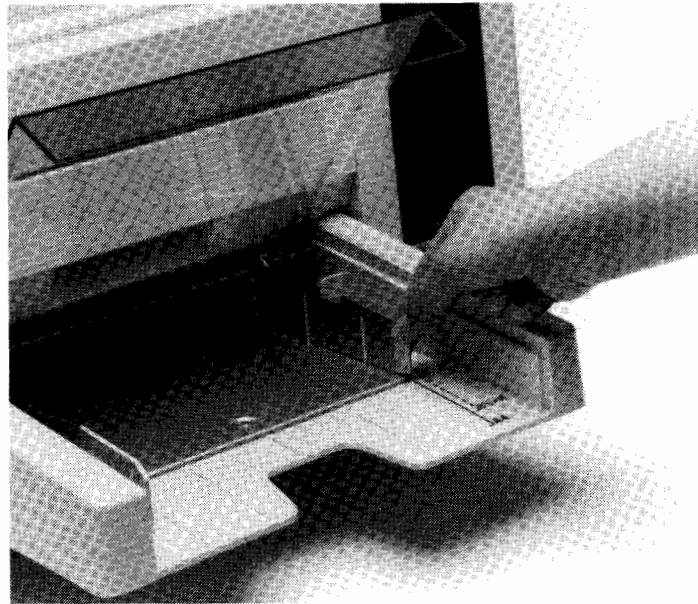

Figure 3-9. Paper Guide Positioning
- b. Change the paper size to the desired size setting by changing the position of the paper guide in the paper tray (see figure 3-9).